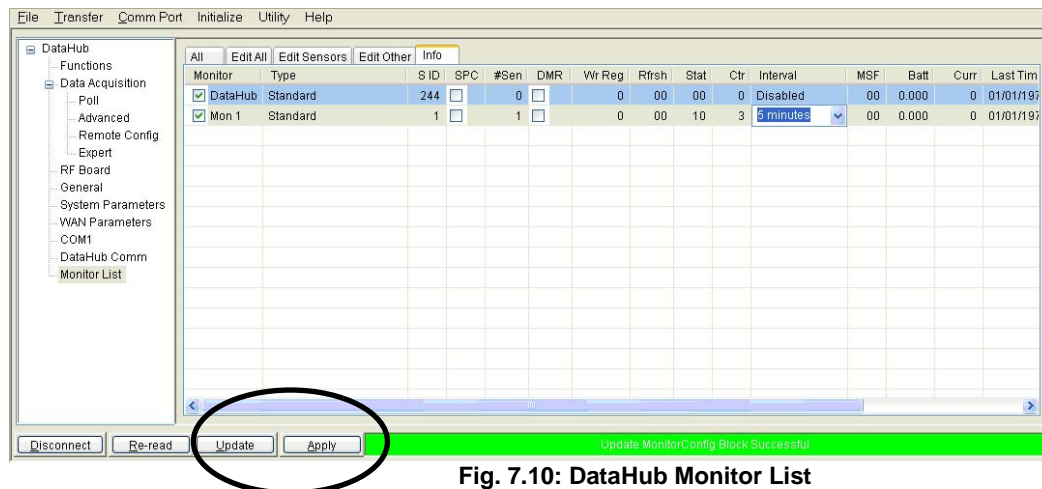

Fig. 7.10: DataHub Monitor List
7.20 Click on **Apply** then **Update** to save the changes made to the DataHub Monitor List. Fig. 7.10